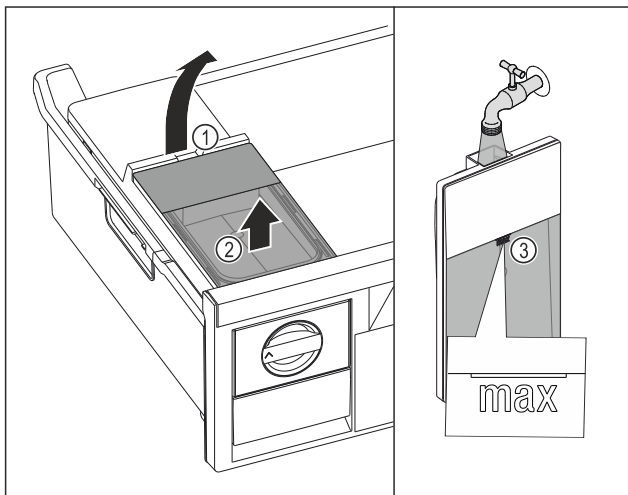

Fig. 98
- ▶ Lift the water tank at the recess Fig. 98 (1).
- ▶ Remove the water tank by lifting it upwards. Fig. 98 (2)
- ▶ Fill the water tank with drinking water up to the mark Fig. 98 (3).